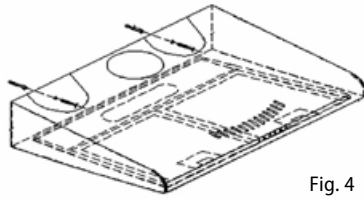

Fig. 4
7. Fix the unit to the wall using the supplied wall plugs and screws (Fig. 4).